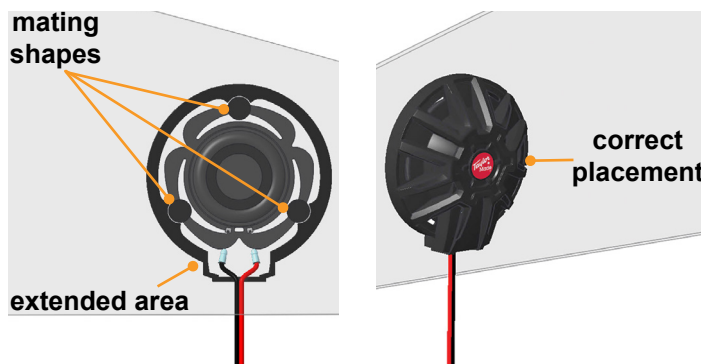

Fig.5
9. When installing the cover, make sure to align the support areas with the mating shapes (Fig.5). Also check to make sure that the tabs and wires are in the extended area so that the speaker wires run through the gap at the bottom of the cover (Fig.5).